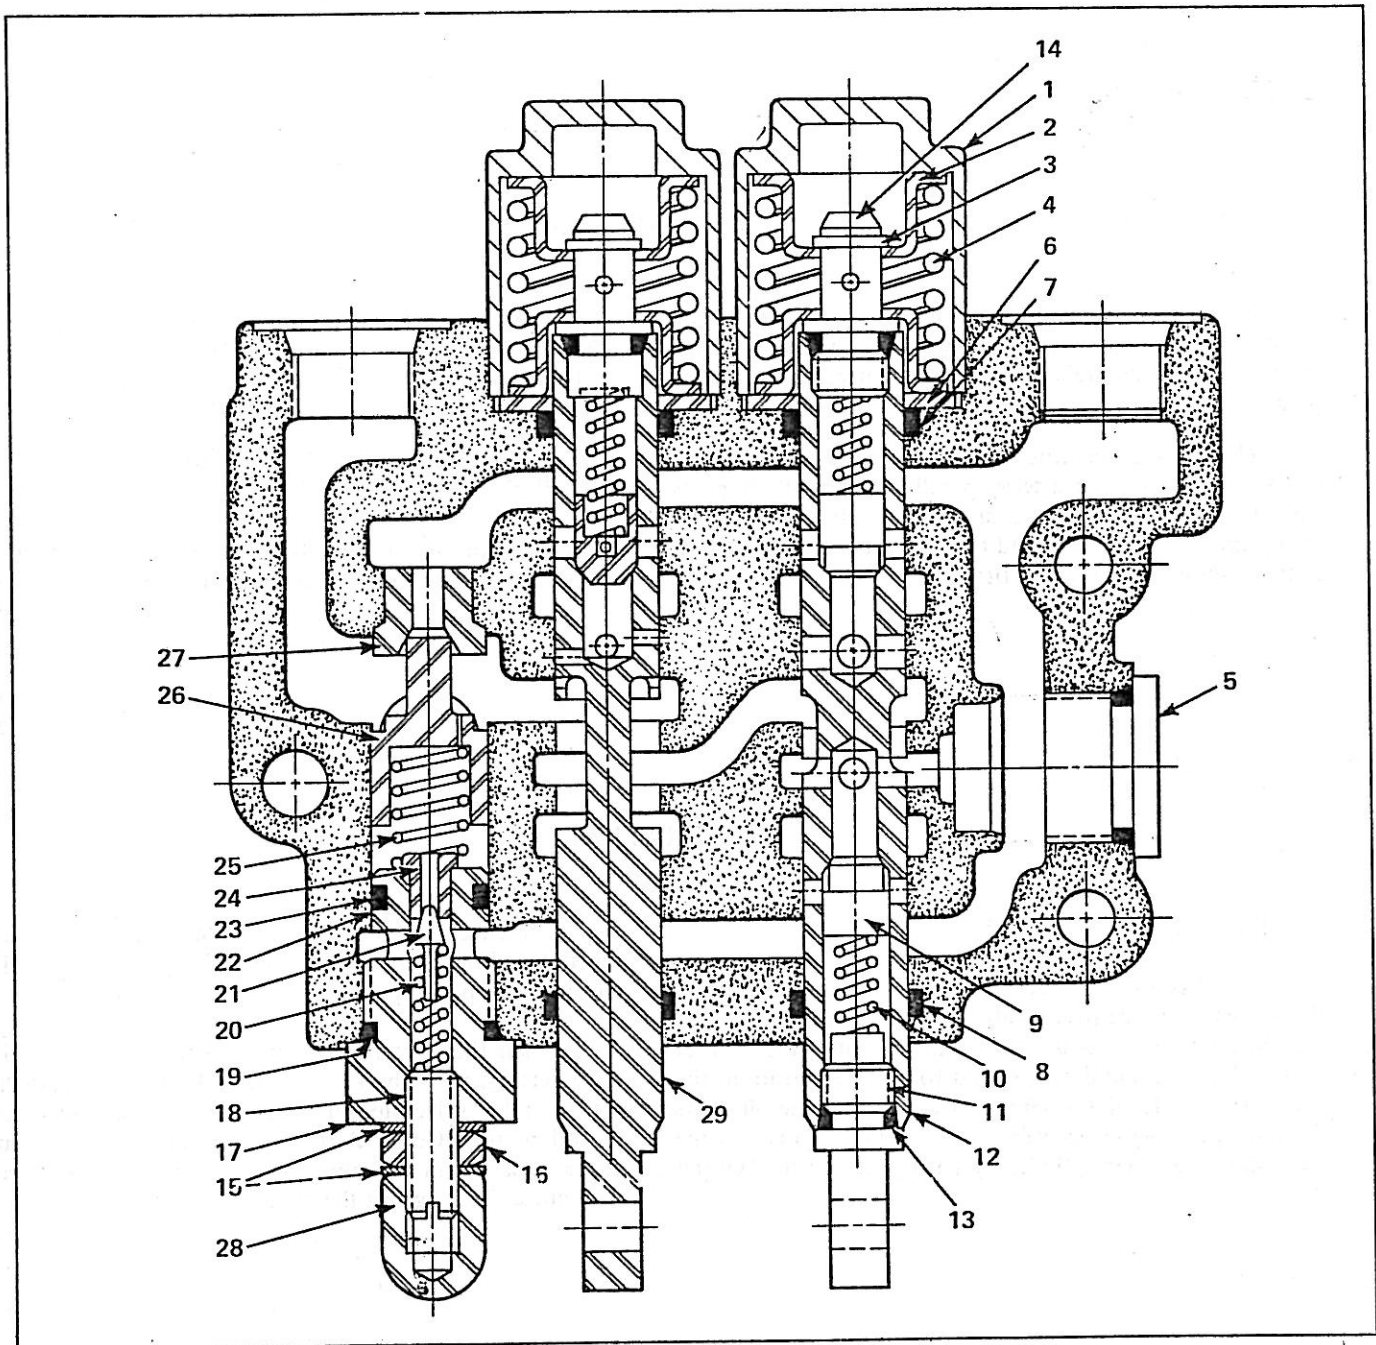
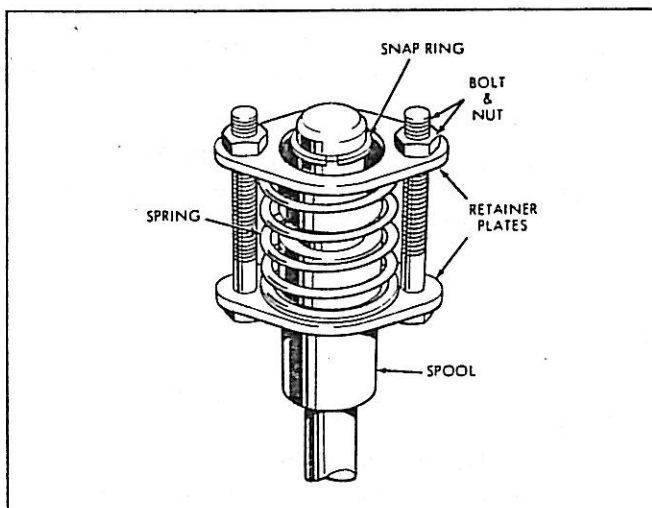

Figure 1. Typical VDSP20 Control Valve
Figure 3. Compressing Spring for Snap Ring Removal
(See Figure 1)
(b.) For compressing the spring on spring-centered spools, two (2) retainer plates with bolts and nuts, as shown on Figure 3, may be used. To operate spring compressor; place one retainer plate over the eye end of the spool and against the bottom spring spacer and the other retainer plate against the top spring spacer. Line up holes and install bolts and nuts. Tighten nuts evenly to compress spring sufficiently to allow removal of snap ring. Caution should be exercised as spring is compressed. Unscrew bolts slowly until all spring pressure has been released.
being installed. Drill a hole in the stock slightly larger than the stud end of the spool. Remove any sharp edges. To use sleeve type tool when ready to install snap ring, compress spring (see Figure 3), then position snap ring on stud end of spool. Position tool against snap ring and tap rather sharply, with a rawhide mallet, until snap ring is seated in groove.
3. REMOVE AND DISASSEMBLE SPOOLS. On Spring-Centered "D", "P" and "C" Type (see Figure 1), unscrew and remove spool cap. Then grasp spring end of spool and withdraw from valve body. Clamp spool in a soft-jawed vise, compress spring (see Paragraph 2b and Figure 3), then remove snap ring, outer spring spacer, spring and inner spring spacer from spool.
4. REMOVE CHECK VALVES. (See Figure 1.) Clamp spool in a soft-jawed vise. Insert a pin thru the hole in spool end (14) and unscrew, then remove spring and check poppet. Reverse the spool in the vise and unscrew eye (11) and remove spring and poppet.
5. REMOVE RELIEF VALVE. (See Figure 1.) Unscrew cap (17). Remove spring (25) and poppet (26). Do not remove seat (27). Disassemble parts in cap (17) but do not remove seat (24). Remove o-rings from cap.
(See Figure 1) To assemble spring centered spool, clamp the spool in a soft-jawed vise, eye end up. Be sure to get correct end as the spool is not symmetrical. Drop in the check poppet; if new parts are not used be sure that poppets are installed in their respective bores. Place spring into poppet. Install new o-ring on spool eye and screw into spool and tighten using loctite thread lock and 30 to 40 inch pounds of torque. Allow loctite to cure before applying hydraulic pressure.
Reverse the spool in the vise and assemble check in this end in the same way. Then place spring spacers and spring on spool. Compress the spring and install new snap ring per paragraphs 2b and 2c and Figure 3 and 4 under Tools.
(See Figure 1) Install relief seat in the bottom of the bore. Install poppet assembly with small end towards the seat. Install large spring in inner diameter of the plunger. Assemble parts on cap (17). If new seat (24) is required press into cap till head is flush with small end of cap. Install screw (18) finger tight against its spring. Screw cap into body and tighten.